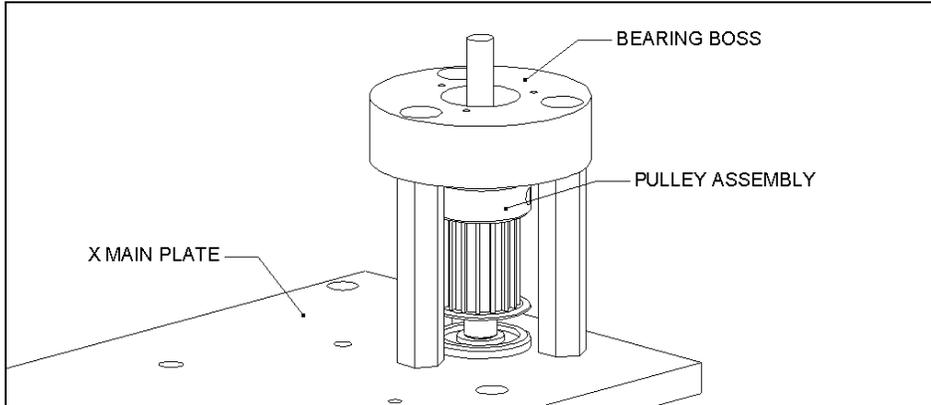

Figure 7-59 Mounting the Idler Pulley Assembly Onto the X Main Plate
- 1 Position the new Idler Pulley Assembly onto the X main plate so that the bottom bearing of the new Idler Pulley Assembly is resting in the counter-bore of the X main plate (Figure 7-59). Insert, but do not tighten, the three M4X16 cap head screws that secure the X Idler Pulley Assembly to the three standoffs.